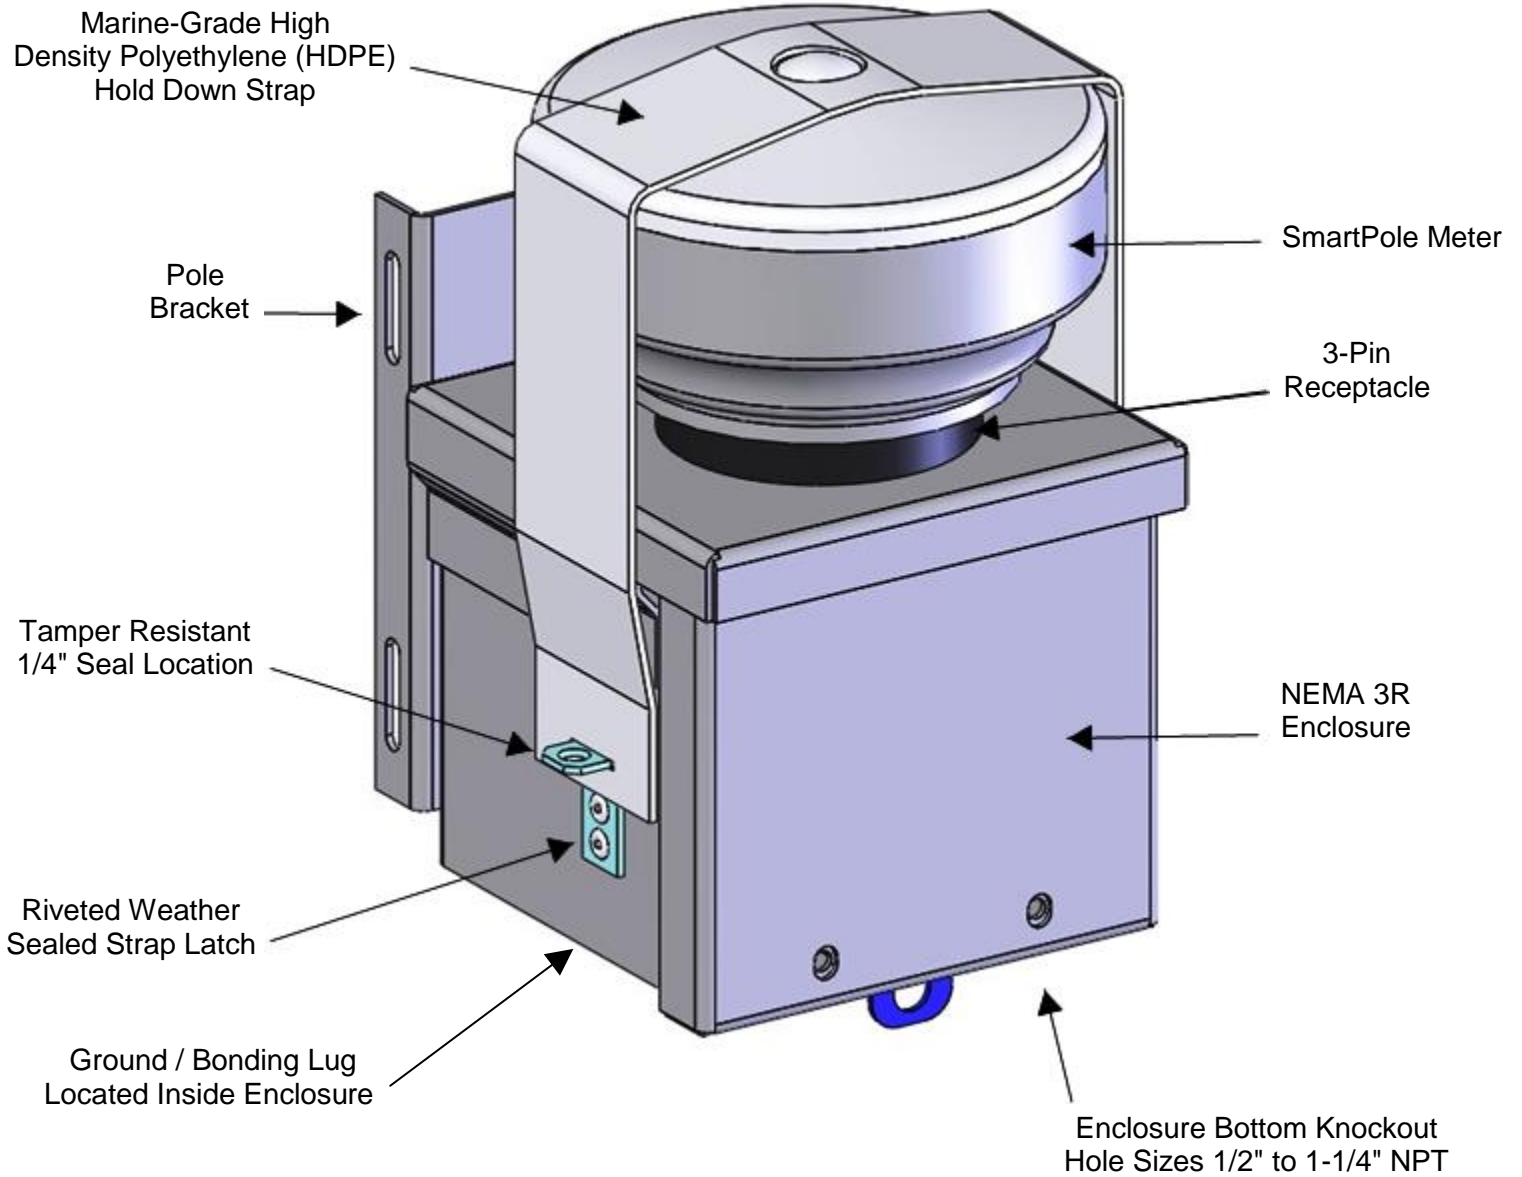
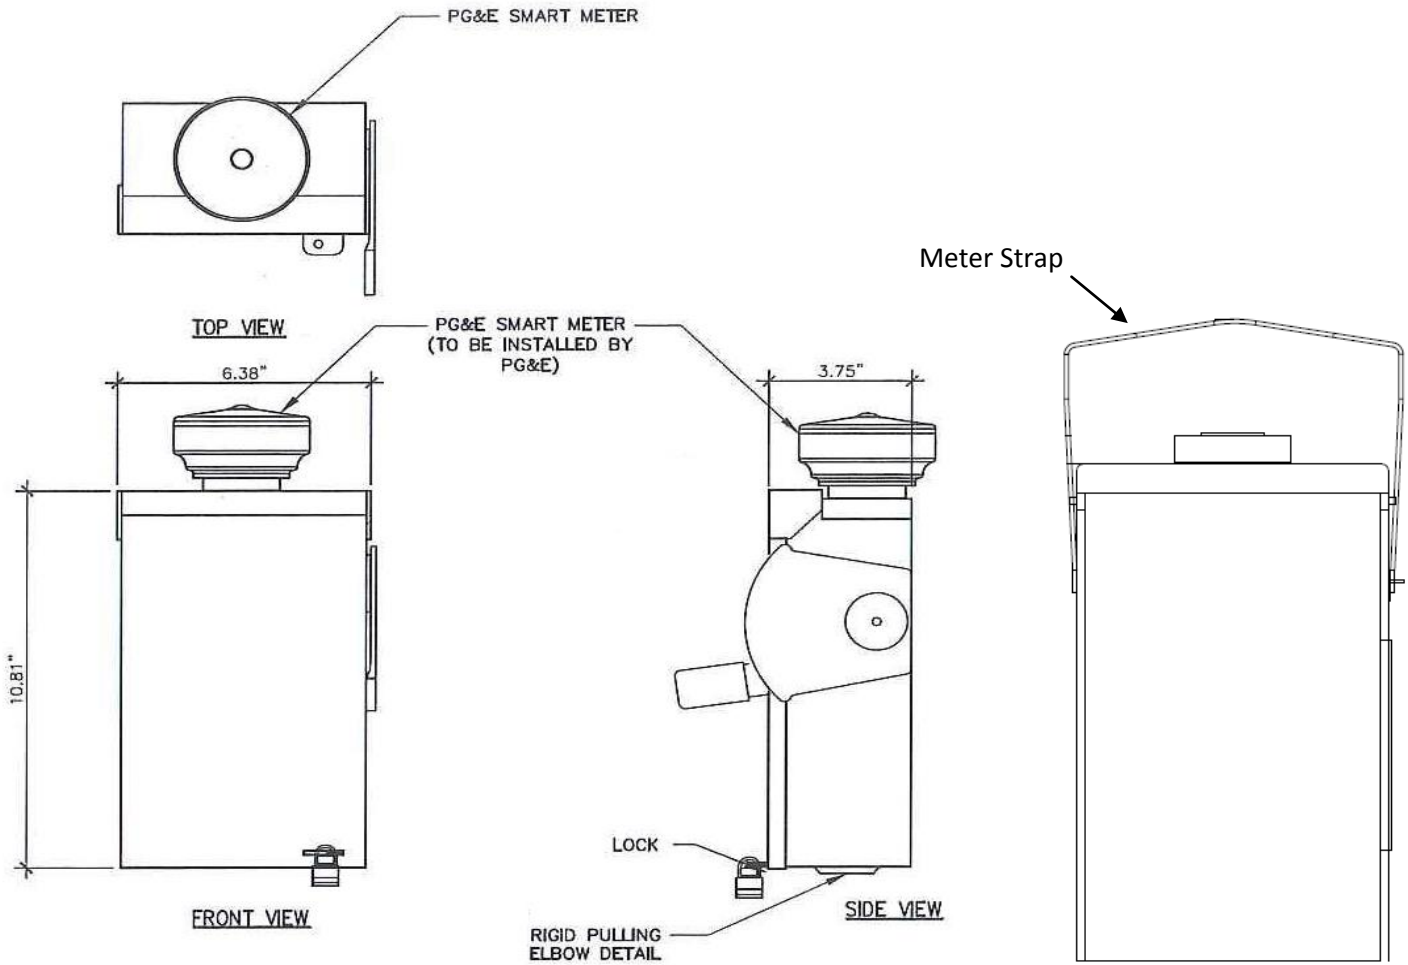

Figure 2
Figure 3 – Meter and Disconnect Switch Combination Enclosure
4. Installation of a NEMA 3R enclosure unit with pole bracket is required. The enclosure with receptacle, pole bracket, and meter strap come together as one unit manufactured by Tesco Advent. See item 12 in Table 1 and Figure 2. There is also a combination enclosure that includes a disconnect switch and receptacle for the SmartPole meter. This All in one combination enclosure can be ordered using material code M241677. See item 12 in Table 1 and Figures 3 and 4 on pages 5 and 6.
5. Install the SmartPole Meter enclosure (Figure 2 or Figures 3 & 4) a minimum of 7 feet to a maximum of 8 feet above grade, as measured from the bottom of the enclosure, and not exposed to vehicular traffic.